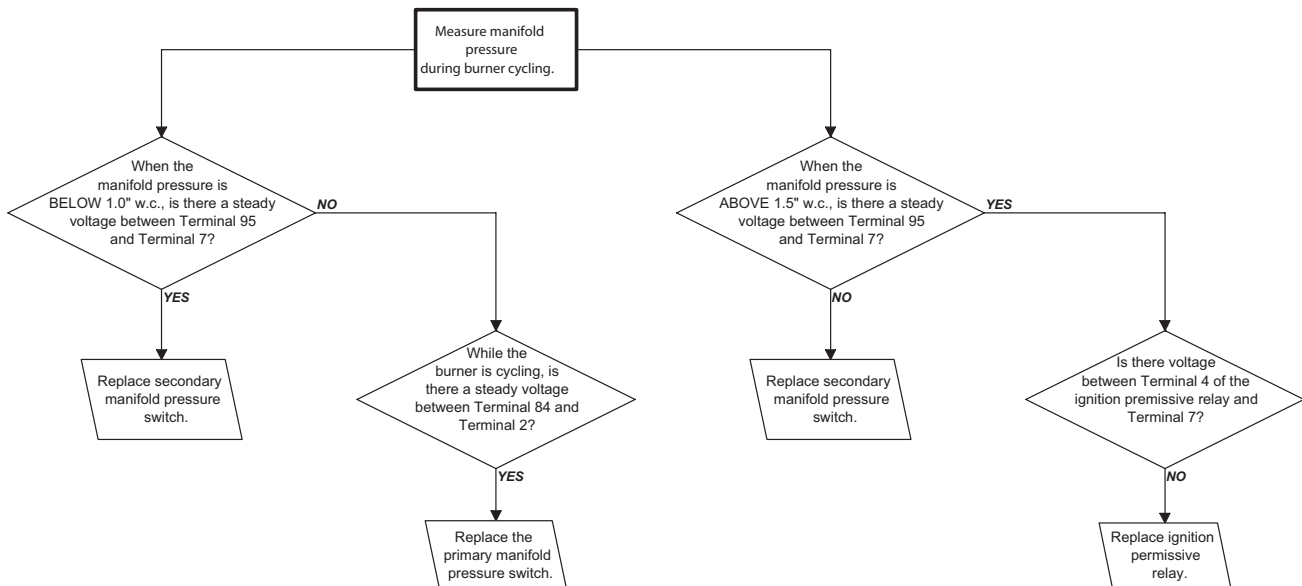

Figure 27. Troubleshooting Guide for Checking Bypass Combustion Air Damper Safety Circuit on Units with Option AG39 or AG40
- Refer to Table 18 for option AG40 pressure requirements and to Figure 27 for troubleshooting option AG40.